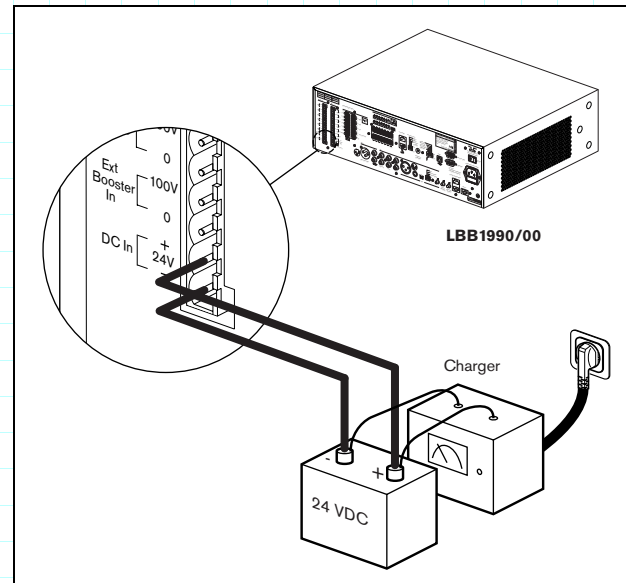

figure 3.18: Connecting a back-up power supply
The voice alarm controller has a 24 V(DC) input to connect a back-up power supply (e.g. a battery) which powers the system if the mains power is not available. See figure 3.18 for connection details.